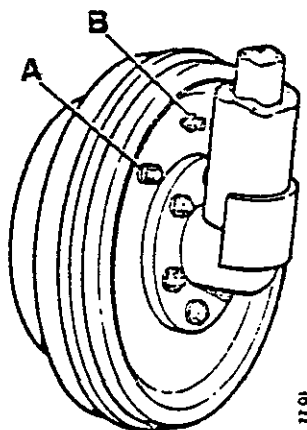

FIGURE 2. FRONT WHEEL BRAKE ADJUSTMENT
- (1) Apply handbrake securely and jack wheel clear of ground.
- (2) Turn hexagon-head adjuster on brake backplate (Figure 2) clockwise until brake starts to bind, then back-off the adjuster two clicks.
- (3) Check that wheel rotates freely then repeat procedure on opposite front wheel.
- (4) Check level in fluid reservoirs and top up if necessary. Lubricate pedal pivots and road test the tractor to check brake operation.